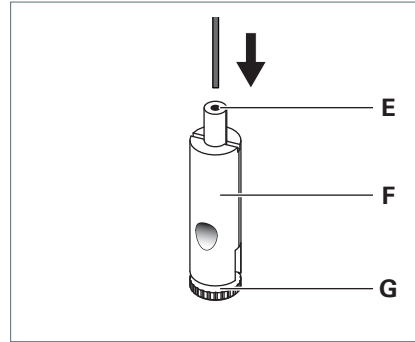

Fig. 8: Mounting the wire rope holder.
- ▶ Guide the wire rope through the guide bushing **E** of the wire rope holder **F**, see Fig. 8.